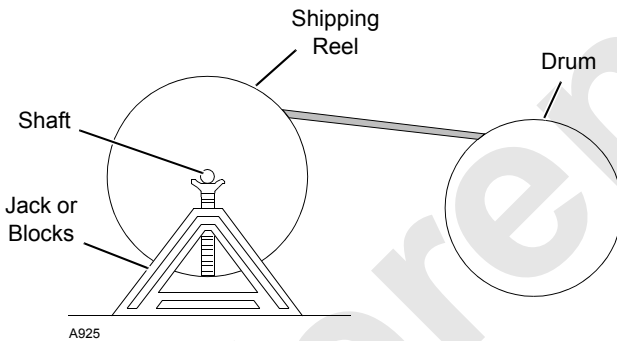

FIGURE 4-20
1. Mount wire rope shipping reel on a shaft supported at both ends by jacks or blocks as shown in Figure 4-20.